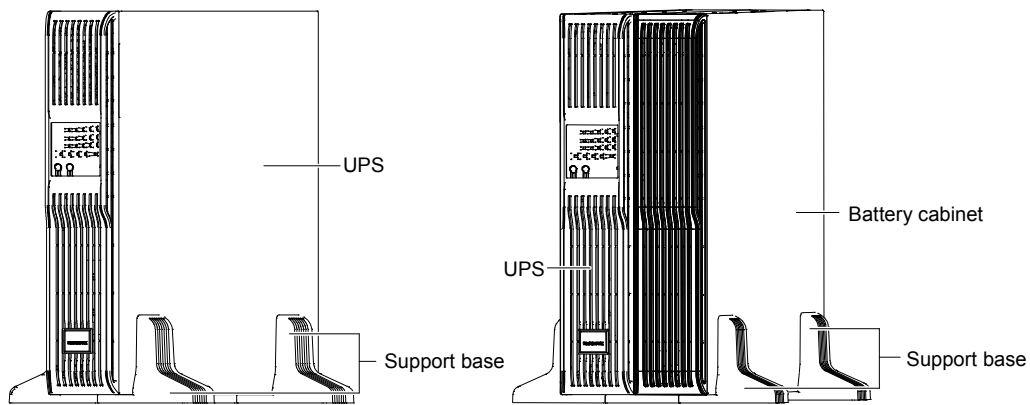

Figure 2-6 Tower installation
Step 4: Place the UPS (and battery cabinet) on the support bases. Each UPS needs two pairs of support bases to install, as shown in Figure 2-6.